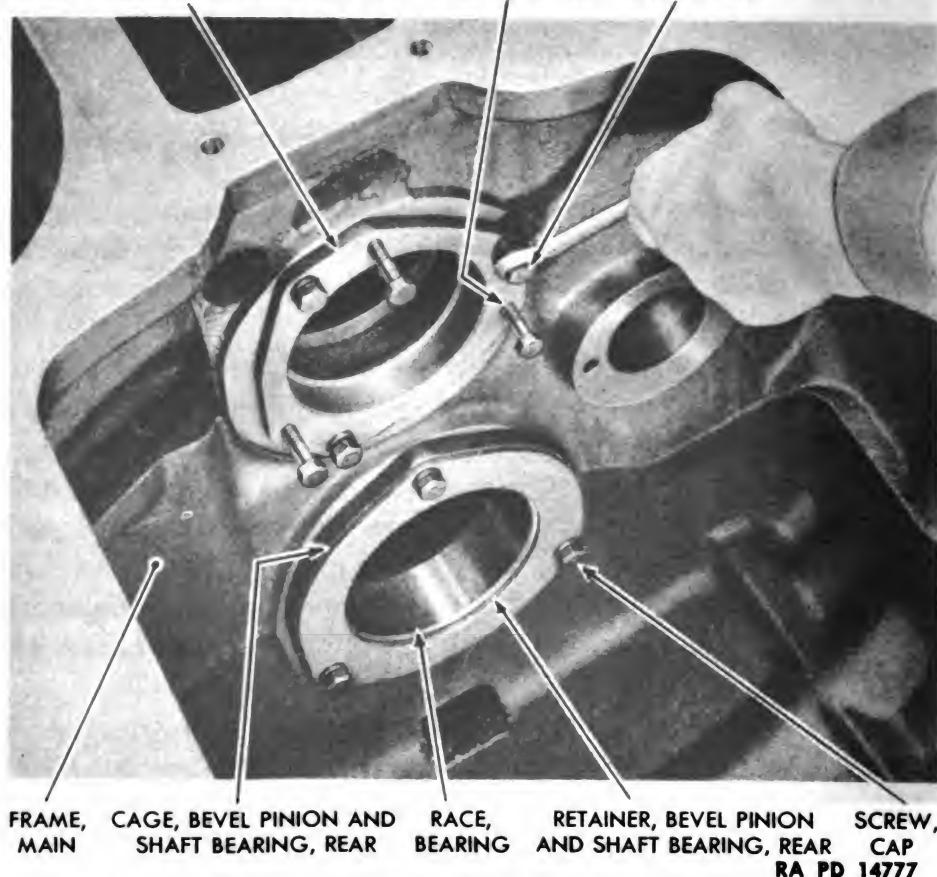

Figure 43 – Rear Spline Shaft Bearing Cage Removal
(19) REMOVE REAR SPLINE SHAFT BEARING CAGE (fig. 43).
(20) REMOVE REAR BEVEL PINION AND SHAFT BEARING CAGE (fig. 43).